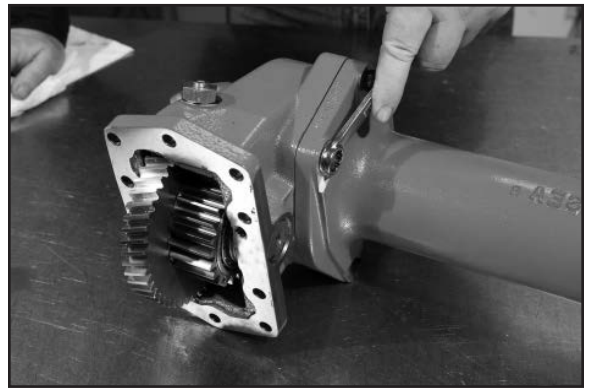

Figure 3
1. At installation, the input housing is installed to the transmission first. The 890/897 comes from the factory assembled. Remove the 4 bolts that connect the tube section to the input housing (**Fig. 3**).
3. Install the fitting (1) into the pressure port on the valve cap as shown **Fig. 3**. Torque to 156-180 lb-in [18-20 N-m]. Next install the pressure switch (890 Series Only) (2) into the port in the valve cap as shown and torque to 120-140 lb-in [14-16 N-m] (**Fig. 5, 5a, & 5b**).